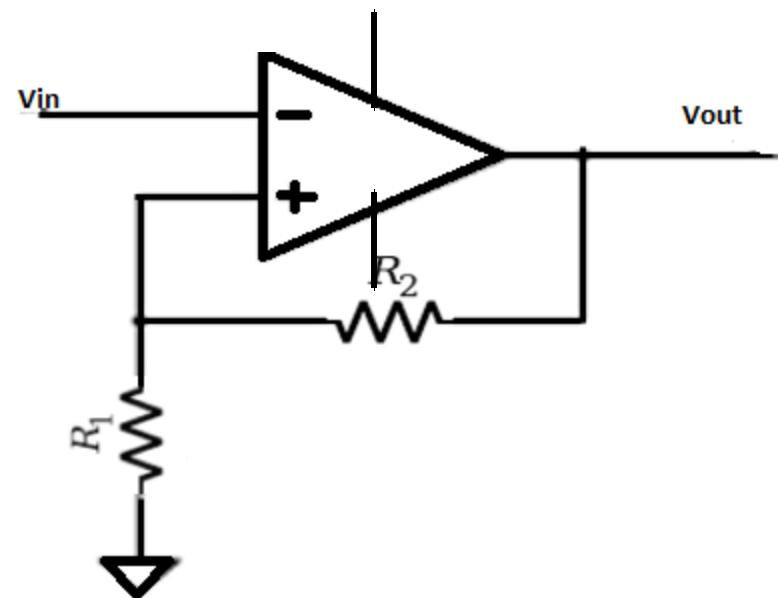

Figure 2
- Figure 2 shows the output of zero crossing detection if the input contains noise.